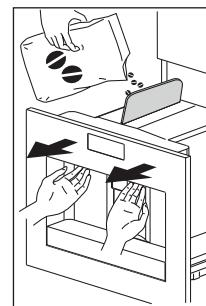

Fig. 14
- ▶ Extract the appliance by pulling it out using the handles (Fig. 14). Open the lid and fill the container with coffee beans, then close the lid and push the appliance in.